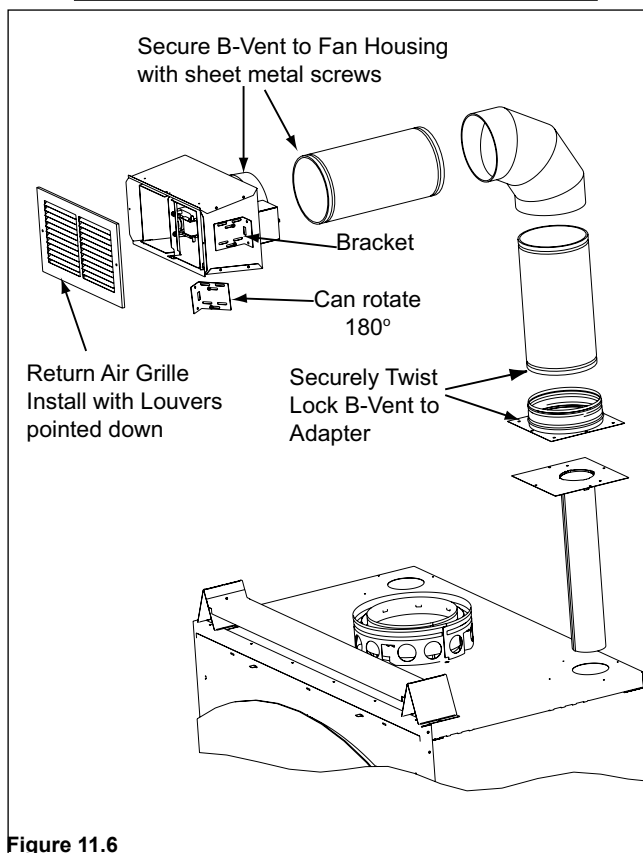

Figure 11.6
7. Determine the location for the air register and fan housing assembly. Cut a 7-5/8 in. x 13-5/8 in. (143 x 346mm) hole between framing members (wall studs or floor joists). The brackets can be rotated 180° and mounted to the back side of the 2 x 4 if necessary. See Figure 11.6 on page 61.
Also screw the B-Vent to the outlet box on the fan housing. See Figure 11.6 on page 61. Support duct at intervals of no greater than 4 ft (1 m) as required by local code.